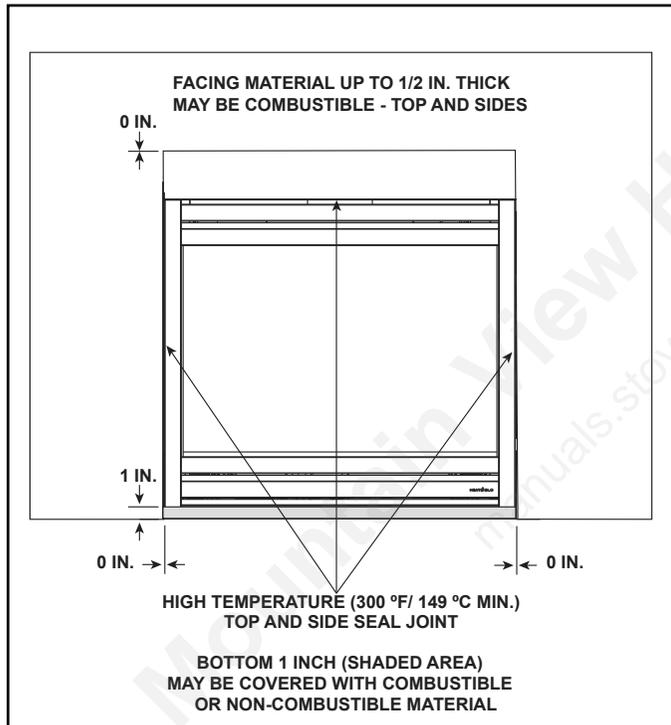
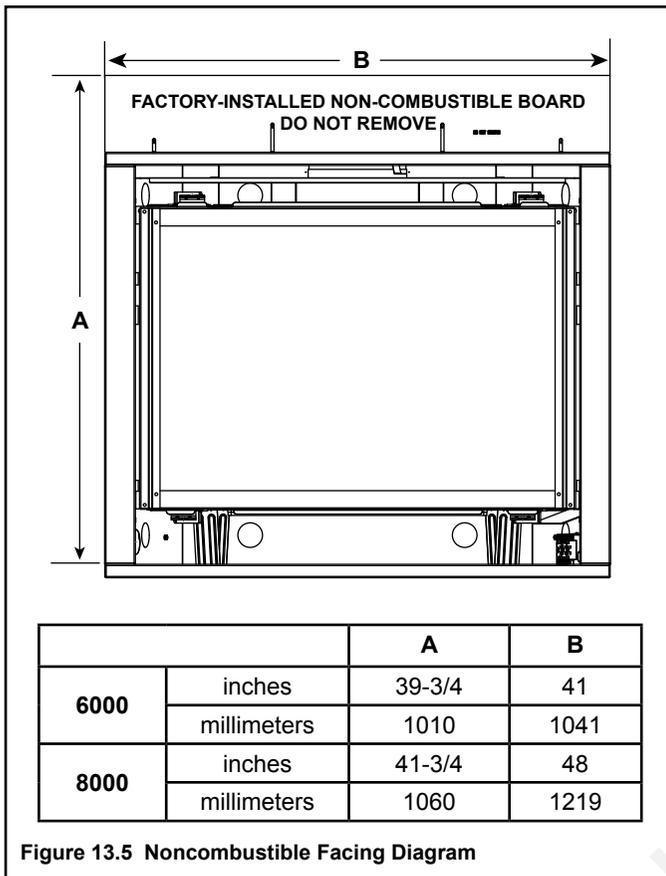

Figure 13.4 Facing Materials
Figure 13.5 Noncombustible Facing Diagram
- Seal joints between the finished wall and appliance top and sides using a 300 °F minimum sealant. Refer to Figure 13.4 and Figure 13.5.